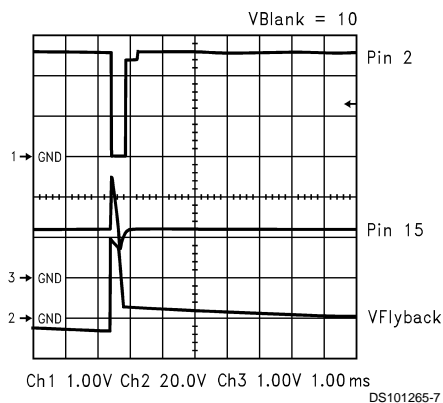
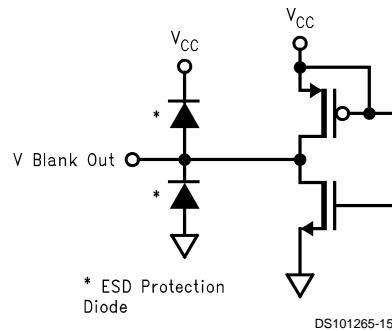

FIGURE 4. V Blank = 10
FIGURE 12. Pin 2 ( $V$  Blank Out)
**Pin 2—V Blank Out** This pin supplies a variable width, negative going pulse at the vertical rate to the CRT Driver. V Blank is triggered from the signal on pin 15, which comes from the vertical flyback. The CRT Driver supplies the pull up for this pin. The width of this pulse is set by the value in the VBLANKDUR register (8403h). Figures 4, 5, 6 show the resulting V Blank Out pulse with various values in register 8403h. The trace connecting pin 2 of the LM1253A to the LM2453 must be kept away from the output circuitry of the LM2453. Figure 29 shows the external schematic of pin 2, Figure 12 shows the internal schematic of pin 2.